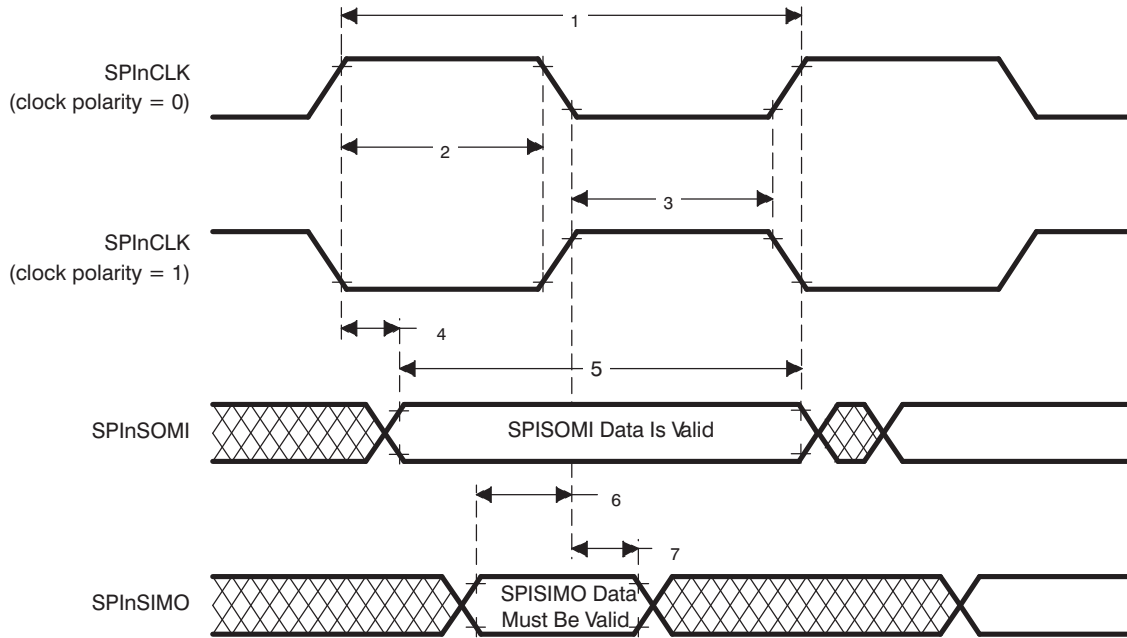

Figure 18. SPIn Slave Mode External Timing (CLOCK PHASE = 0)
(CLOCK PHASE = 0, SPInCLK = input, SPInSIMO = input, and SPInSOMI = output)^{(2) (3) (4) (5)} (see Figure 18)